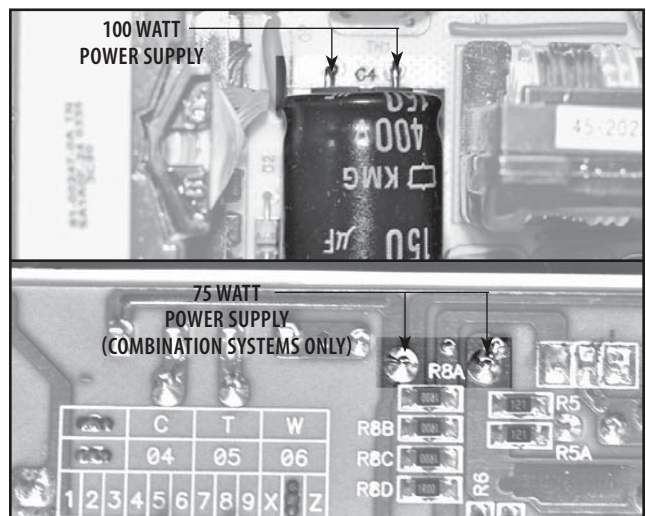

FIGURE 6.41
- a) 100 Watt Power Supply- Discharge Capacitor C4. See Figure 6.41.
- b) 75 Watt Power Supply (Combo Systems Only)- Discharge Capacitor on back of Power Supply PC Board. Pins are on either side of "R8A" on PC Board. See Figure 6.41.